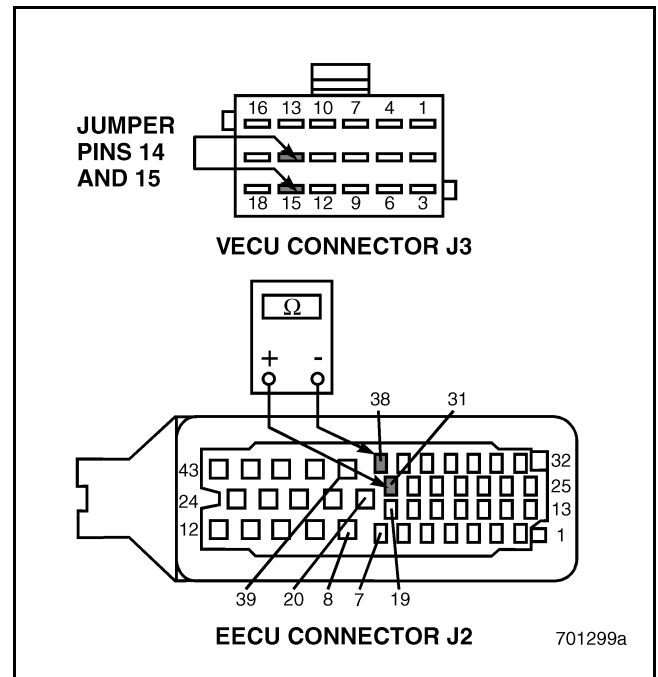

Figure 628
6. Check for continuity between Engine Electronic Control Unit (EECU) connector J2 pin 31 and pin 38 (see Figure 628).